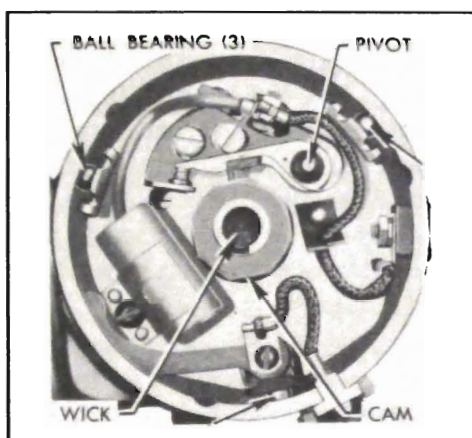

Figure 1-9—Distributor Lubrication—1948 Model Shown
1. *Distributor.* Remove distributor cap and rotor. Apply a few drops of light engine oil to felt wick in top of cam. Put 1 drop of oil on breaker arm pivot. *On 1948 models, put 1 drop of light engine oil on each breaker plate ball bearing—don't over-oil.* Work a small amount of petroleum jelly into a cloth, then hold cloth on distributor cam while engine is being cranked. **CAUTION:** *An excessive amount of jelly will throw off when hot and insulate the contact points, causing ignition failure.* See figure 1-9.